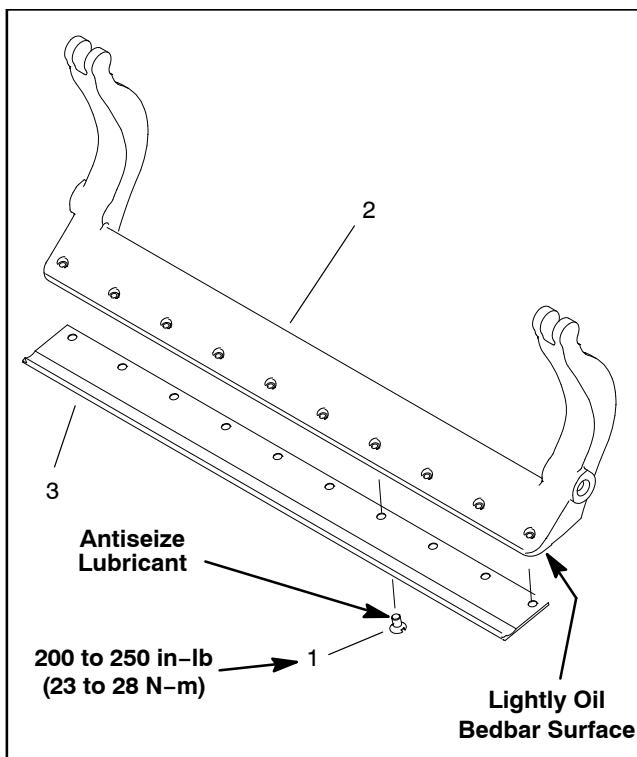

Figure 26
2. Remove screws from bedbar using a socket wrench and bedknife screw tool (see Special Tools in this chapter). Discard screws. Remove bedknife from the bedbar (Fig. 26).